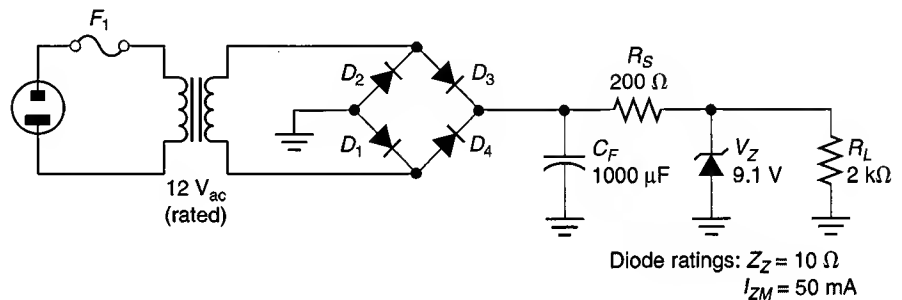

FIGURE 3.64
49. Calculate the dc output voltage and current values for the circuit shown in Figure 3.64.
50. Calculate the output ripple voltage for the circuit shown in Figure 3.64.
54. The circuit in Figure 3.64 has an output that equals 0 V_{dc}. The primary fuse is not blown. Discuss the possible cause(s) of the problem.